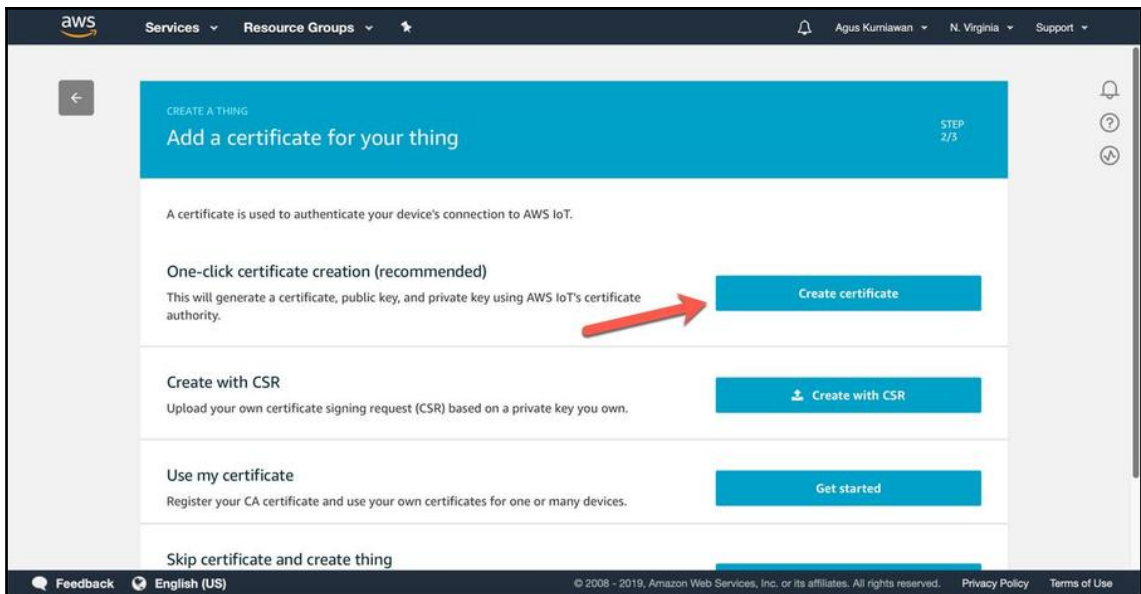

Figure 10.5: Creating a device certificate
12. You should get a web form as shown in *Figure 10.5*.